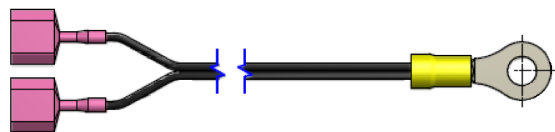

Figure 6 - Mixed Air Sensor
1. Remove the mixed air sensor from the economizer parts bag. The sensor has a small ring terminal. See Fig. 6.